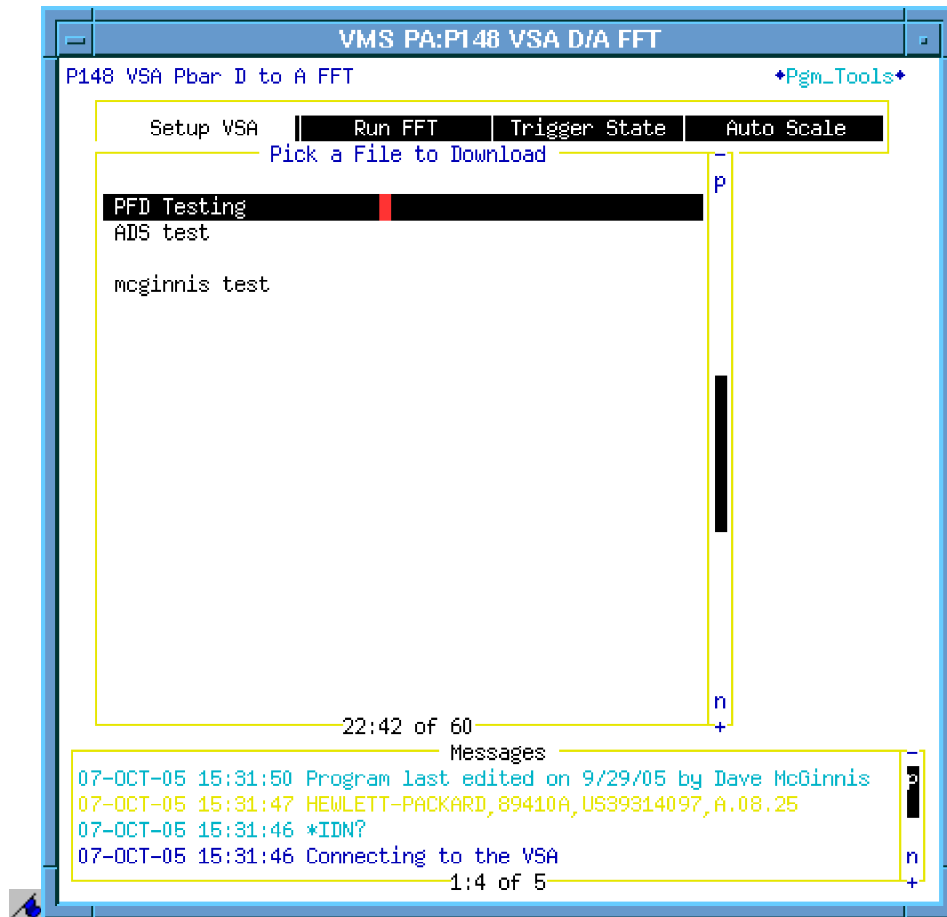

Figure 9: From P148 we load the file "PFD Testing."
4. Click on "Setup VSA" and scroll to the file titled "PFD Testing" as shown in Figure 9.